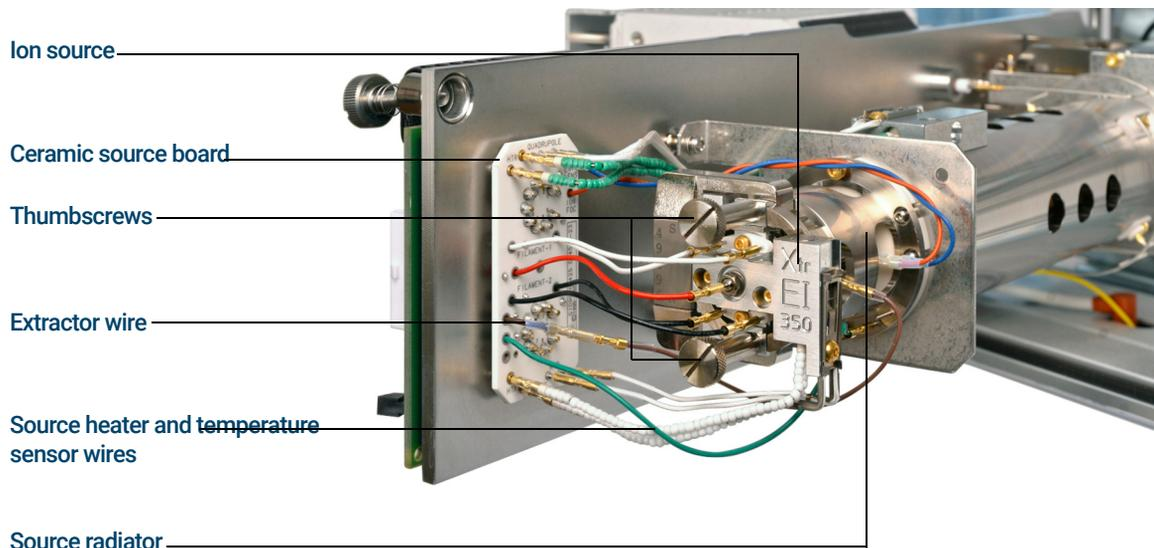

Figure 50. Installing the EI source
- 1 Slide the ion source into the source radiator. (See **Figure 50.**)
- 2 Insert and hand tighten the source thumbscrews. Do not overtighten the thumbscrews. (See **Figure 50.**)